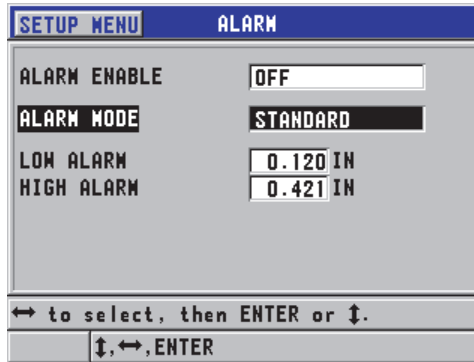

Figure 7-7 Setting up the STANDARD alarm
2. In the **ALARM** screen (see Figure 7-7 on page 137):